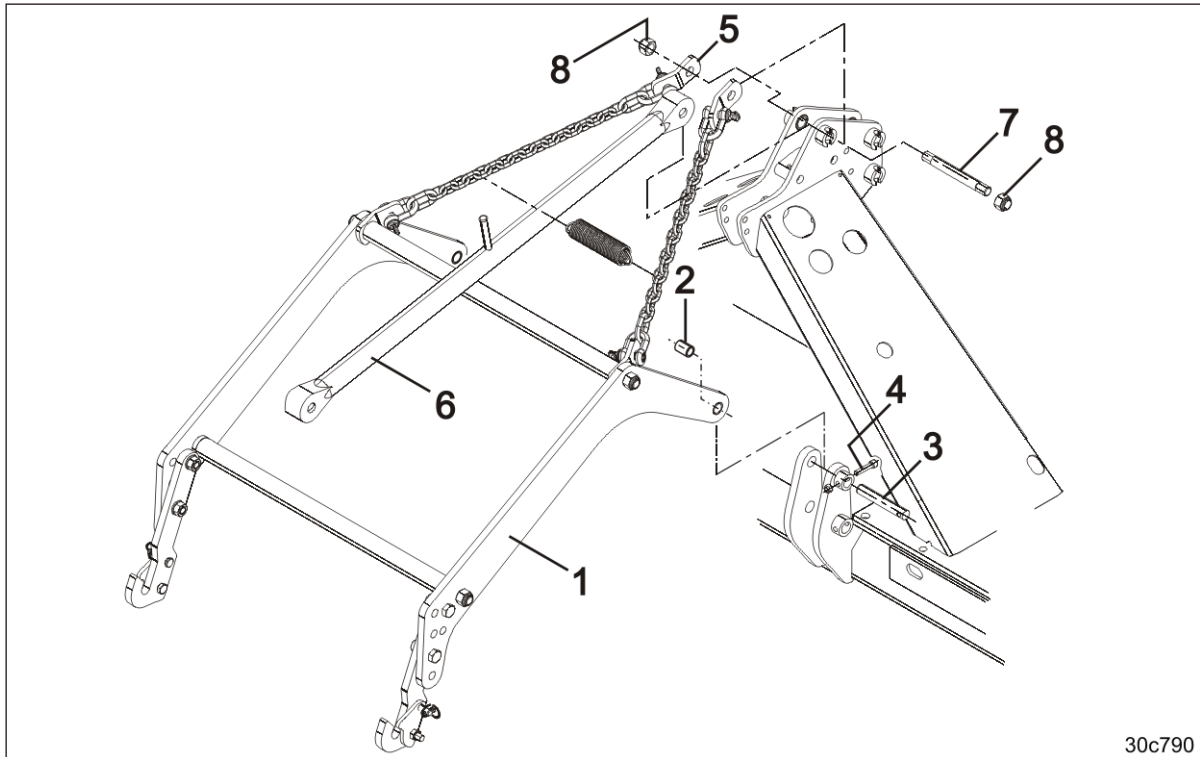

Fig. 78
1. Attach the coupling carrier arms (Fig. 78/1) to a crane.
2. Secure the coupling carrier arms with two spacer sleeves (Fig. 78/2) to the soil tillage implement with two pins (Fig. 78/3).
3. Secure the pins with screws (Fig. 78/4) and nuts.
4. Secure the chains (Fig. 78/5), together with the upper link (Fig. 78/6), to the soil tillage implement with a pin (Fig. 78/7).
5. Secure the pin with two securing nuts (Fig. 78/8).